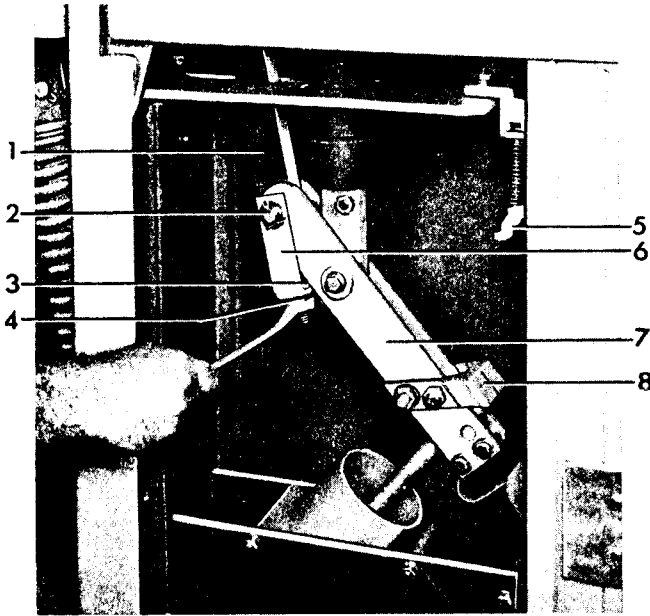

Figure 10. (8038802) Adjustable Coupling For Making Primary Contact Wipe Adjustments.
Refer to Figure 9, when the breaker is closed the stationary primary contacts (1) should rise from $\frac{1}{4}$ " to $\frac{5}{16}$ ". Before checking this dimension be sure the mechanism is re-set so that the prop pin (13) Figure 7 is resting on the prop. To obtain the proper contact adjustment, open the breaker and, referring to Figure 10, loosen the check nut (4) and turn the adjusting nut (3). Screwing up on the adjusting nut will decrease the primary contact wipe, down will increase it. Tighten the check nut, close the breaker and recheck the wipe. With the primary contact wipe correctly adjusted, the clearance between the contact arm (6) Figure 9 and the buffer block (3) should be $\frac{1}{16}$ " or greater when the breaker is fully closed.
Refer to Figure 10. With the breaker closed, press the manual trip button allowing the breaker to trip open normally. Do not force the contacts open wider by hand. The gap between the stationary primary contacts (5) and the movable primary contact (8) measured between the closest points, should be $5\text{-}1/8"$ to $5\text{-}9/16"$. To change this gap, loosen the check nut (17) Figure 7, and turn the adjusting nut (18) on stud (19). Screwing the adjusting nut down will decrease the primary contact gap. Tighten the check nut and re-measure the contact gap (close and trip the breaker before checking the measurement).